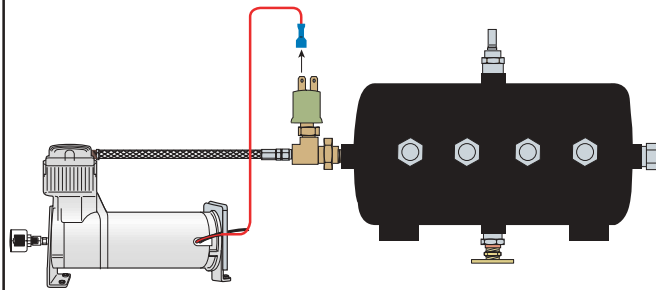

Figure 1
1. Disconnect the red compressor power wire from the pressure switch connected to the end of the tank (Figure 1).